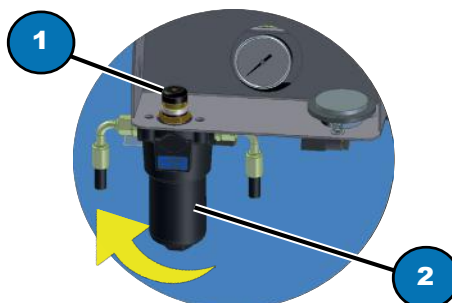

Fig. 8.3
There is a filter near the tank (Fig. 8.3, 2). Each time the machine is used, check that the filter clogging indicator (Fig. 8.3, 1) is green. This check must be carried out in the operational phase. If the indicator is in the red area, replace the filter.
- unscrew the filter (Fig. 8.3, 2) using the special key if necessary;